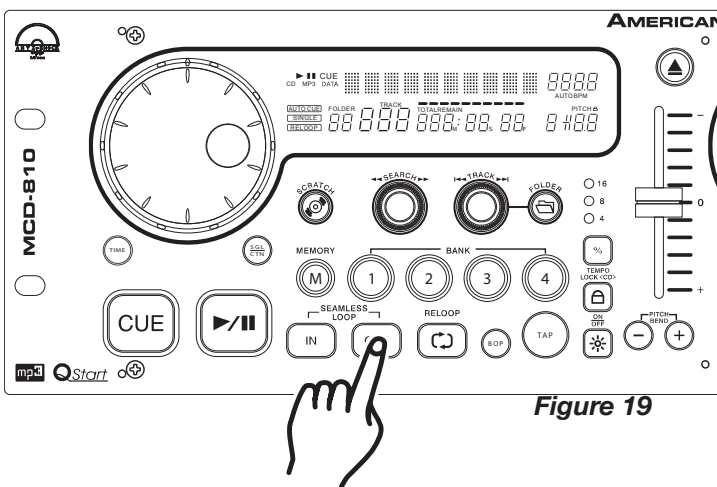

Figure 19
- 3) Press the **OUT BUTTON (20)** to set the ending point for your SEAMLESS LOOP (Figure 19). The **IN BUTTON (21)** and **OUT BUTTON (20)** L.E.D.s will immediately begin to flash rapidly, indicating the SEAMLESS LOOP mode has been activated.